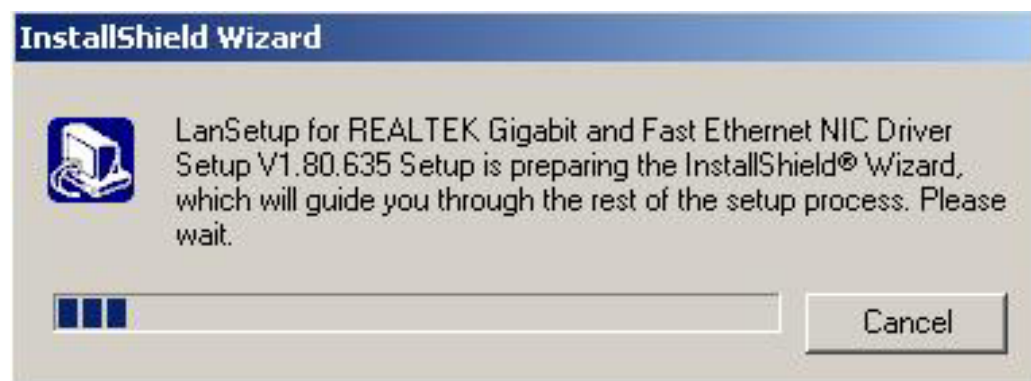

Figure 6-14: Preparing Setup Screen
Step 5: The **Install Shield Wizard** is prepared to guide the user through the rest of the process (**Figure 6-14**).